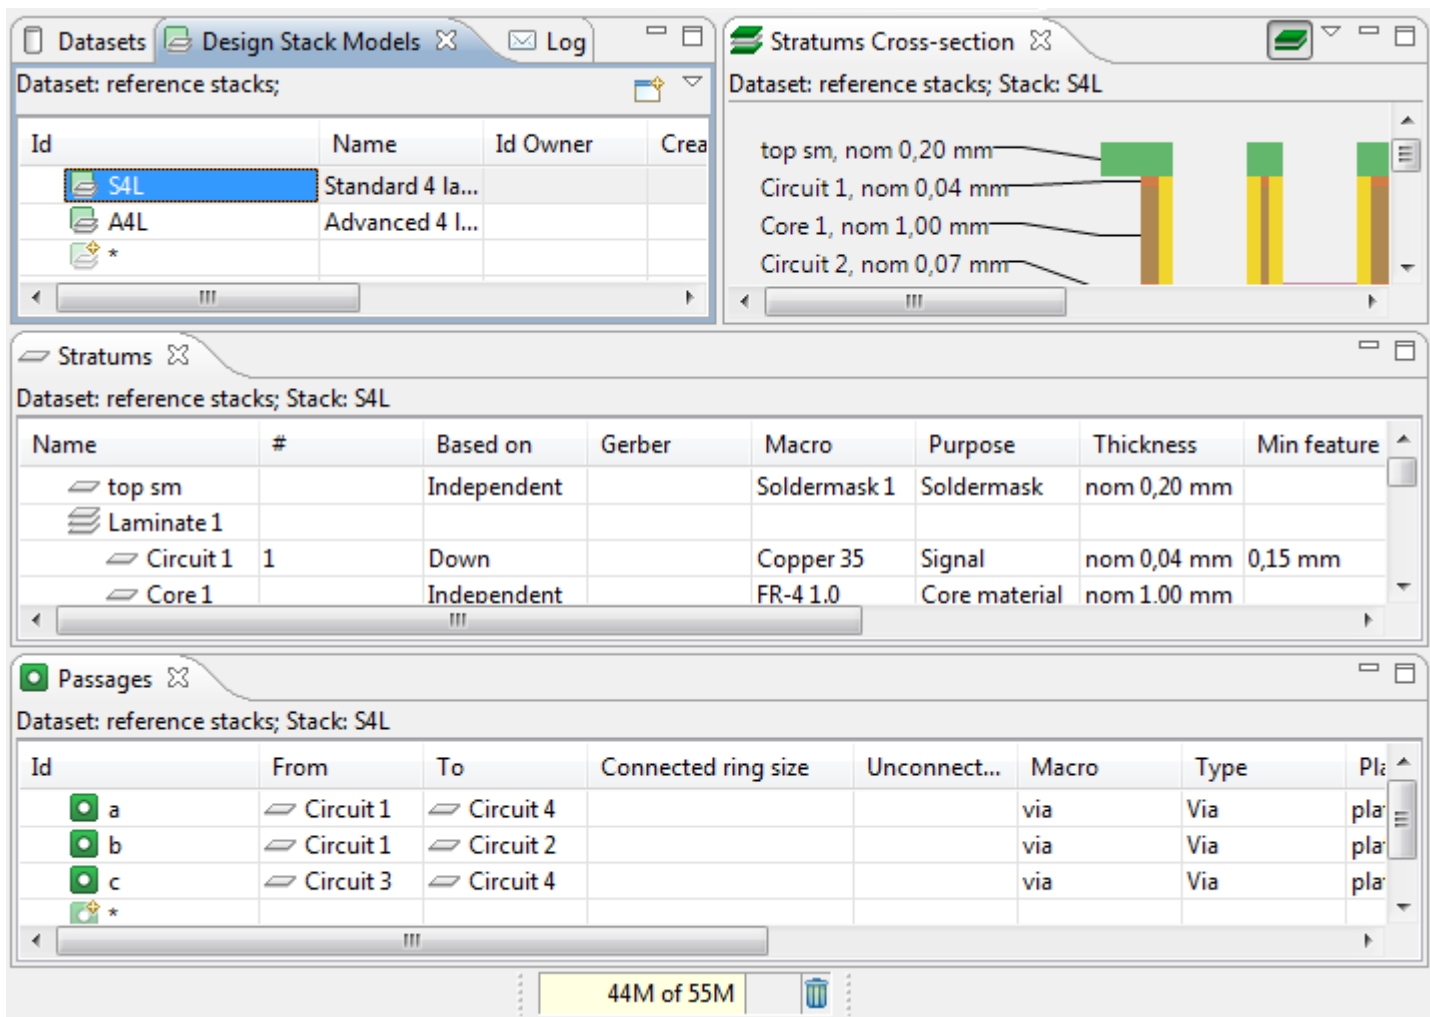

Figure 2. Activated Design Stack Model view and other views are shown with data
- Selecting a dataset of type  *design stack model* in the  **Datasets** view activates the  **Design Stack Models** view. Other views are filled with available data for the first design stack model element (see Figure 2).